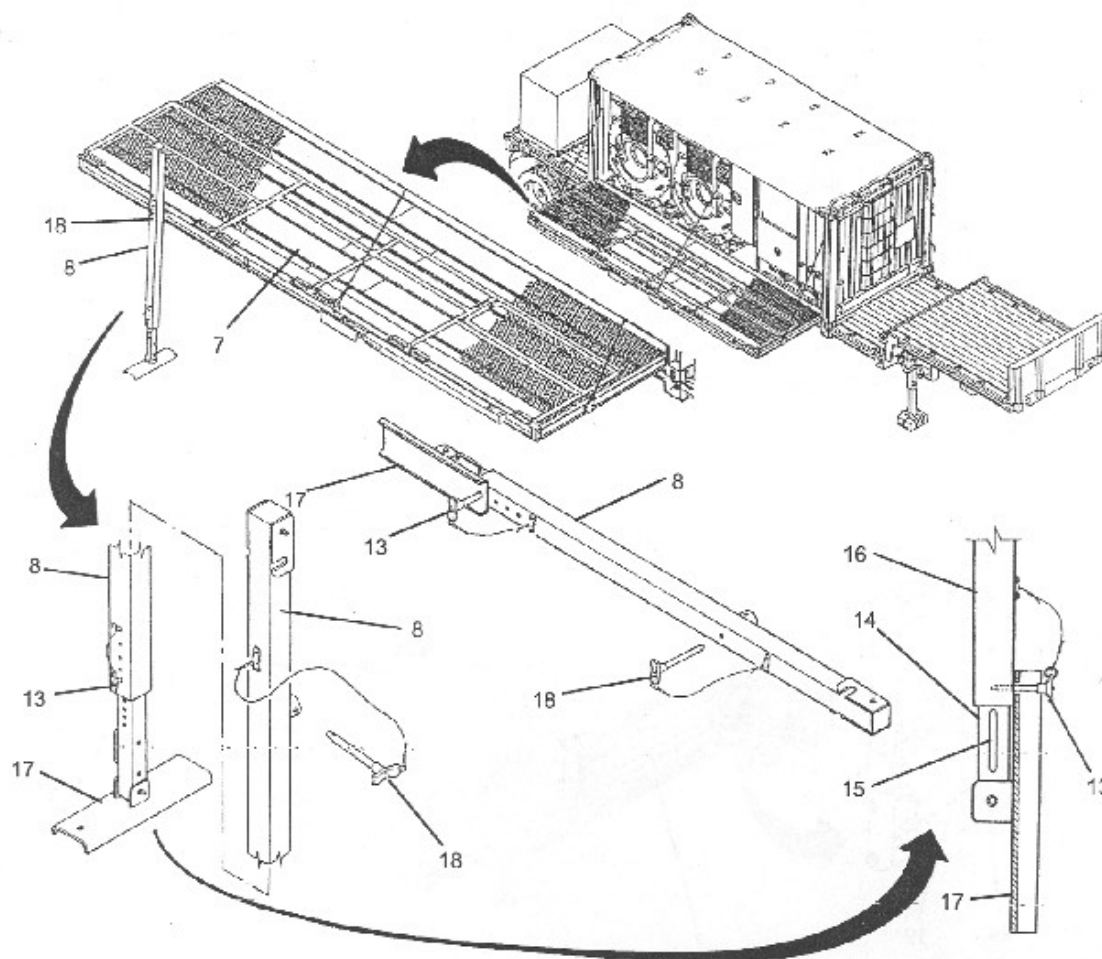

Figure 3-61
- (9) Use winch to raise platform until stow bars are aligned with stow brackets. (See Figure 3-61)